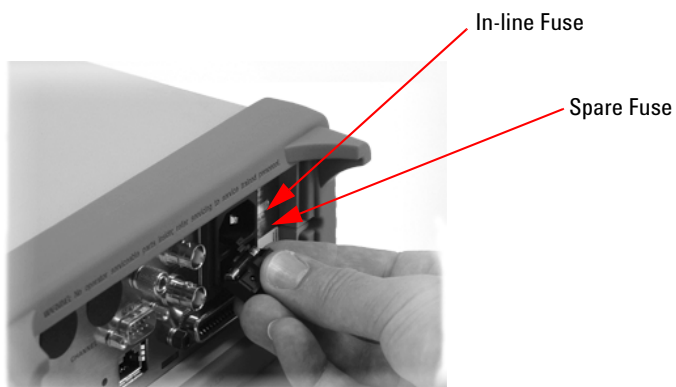

Figure 10-156 Replacing the fuse
- 1 Slide the fuse holder assembly from the rear panel as shown in Figure 10-156.
- 2 Install the correct fuse in the “In line” position as shown in Figure 10-156. (A spare fuse can be stored in the fuse holder assembly.)